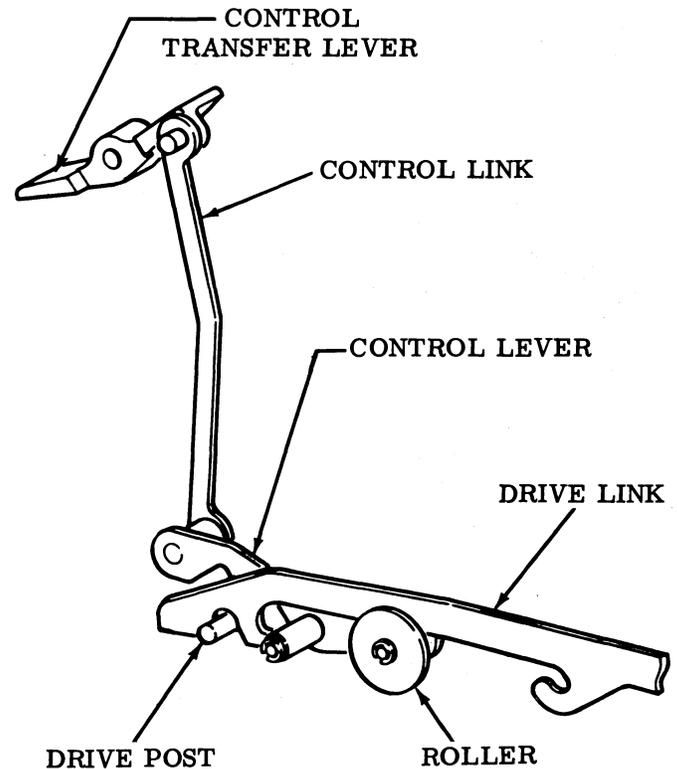

Figure 9 - Manual ON and OFF Mechanism
- 5.03 Tape punch ON (Figure 9) – When the ON pushbutton on the cover is depressed, the control transfer lever operates a control link which, in turn, rotates the control lever. The control lever has a roller on one end and a detent on the other. The detent engages a drive post while the roller guides the drive link. When the control lever is rotated in the ON mode, the detent disengages from the drive post while the roller pivots downward. The drive link, under spring tension, is pulled downward to engage the drive post.
- 5.04 Tape Punch OFF (Figure 9) – When the OFF pushbutton on the cover is depressed, the process described in 5.03 is reversed. The control transfer lever operates the control link and then the control lever is operated. The detent on the control lever travels downward to engage the drive post while the roller pivots upward, disengaging the drive link from the drive post.